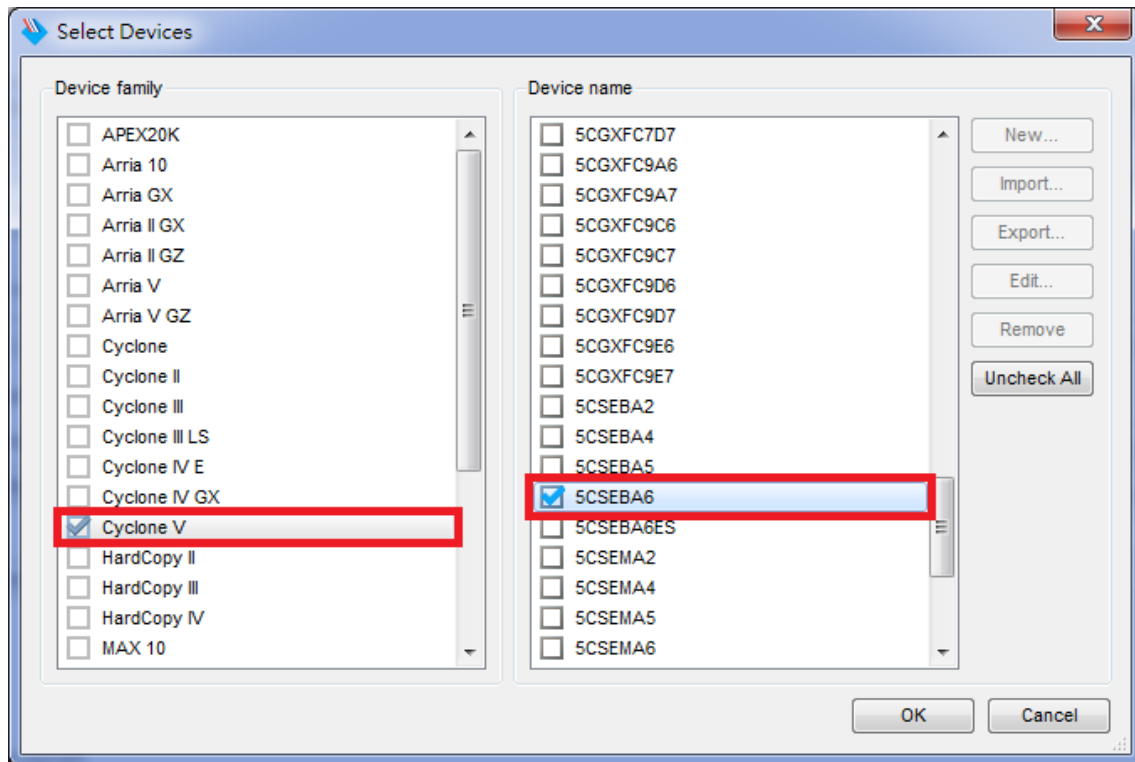

Figure 8-5 “Select Devices” page
11. The **Select Devices** page will appear, please select the targeted FPGA to be programmed into the EPCS, as shown in **Figure 8-5**.